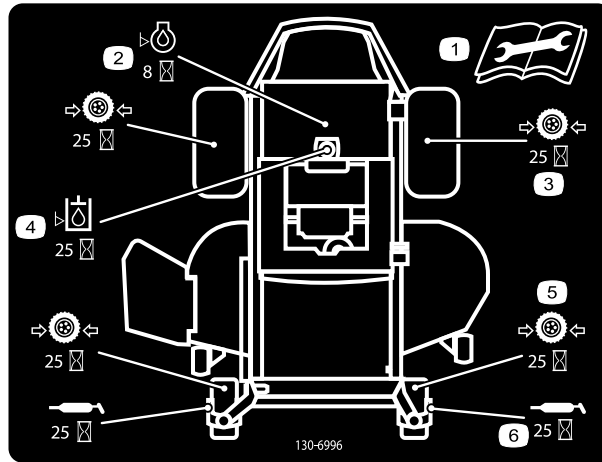

Figure 31
3. Clean the grease fittings (Figure 32 and Figure 31) with a rag.
4. Connect a grease gun to each fitting and pump grease into the fittings until grease begins to ooze out of the bearings (Figure 31 and Figure 32).